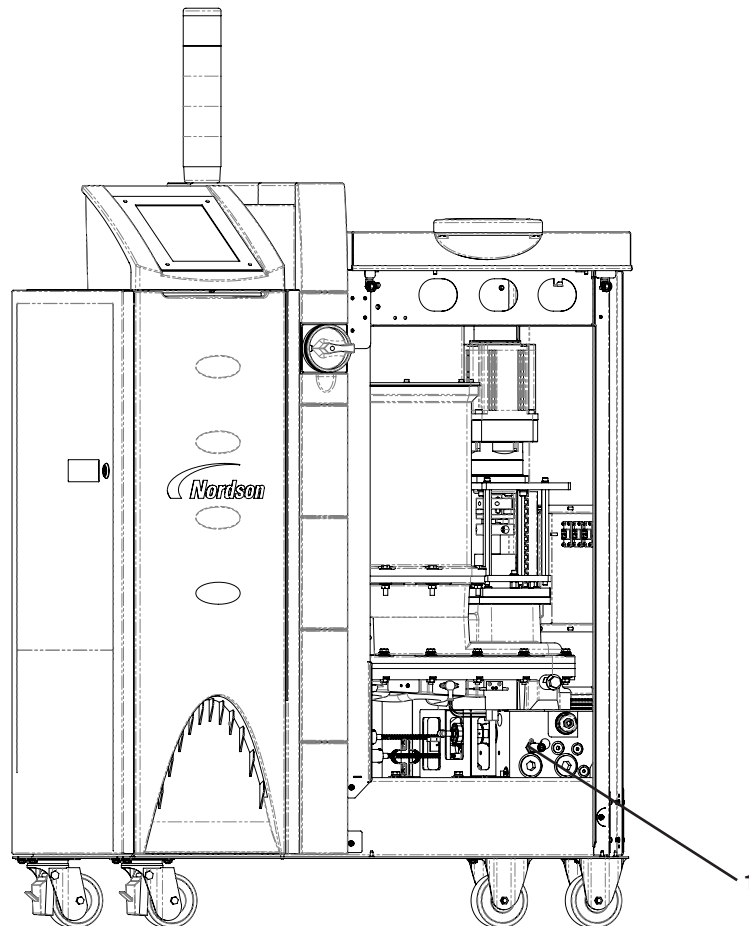

Figure 6-2: Locating the drain valve
11. See Figure 6-2. Use a flat-blade screwdriver to open the drain valve as a final safety check before breaking any hydraulic connection. Make sure that the System Pressure display reads 0 (zero).
NOTE: For information on locating the drain valve, see Figure 6-2 on page 6-7.